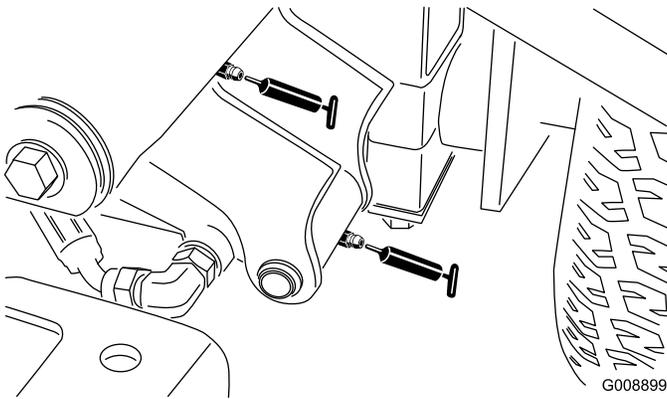

Figure 36
- 2 left, front lift-arm pivots and lift cylinder (Figure 36)